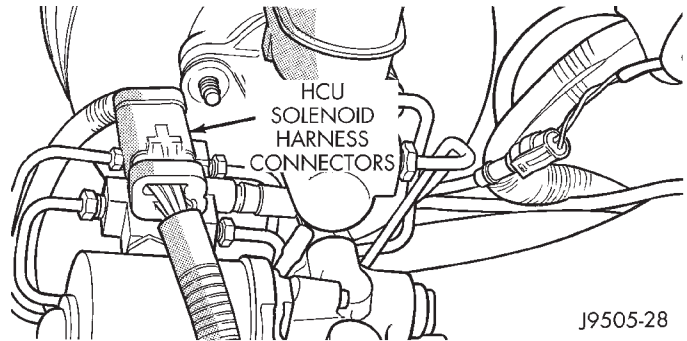
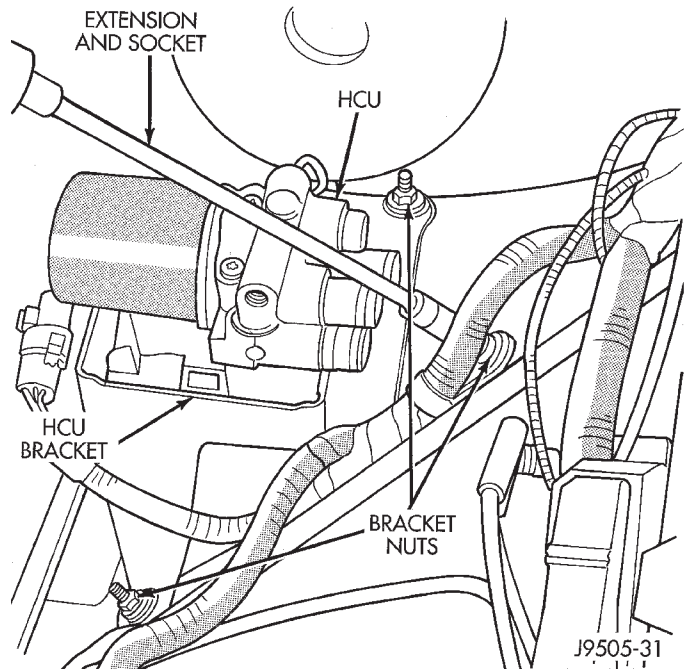

Fig. 10 HCU Solenoid Harness Connector
Fig. 11 HCU Bracket Mounting Nuts
- (1) Remove air filter housing.
- (2) Slide HCU solenoid harness connector off retaining tab on combination valve. Then unplug connector from engine compartment harness and move it aside (Fig. 10).
- (3) Remove combination valve.
- (4) Remove master cylinder.
- (5) Remove mounting nuts from HCU bracket to suspension support panel (Fig. 11). Retain bracket nuts.